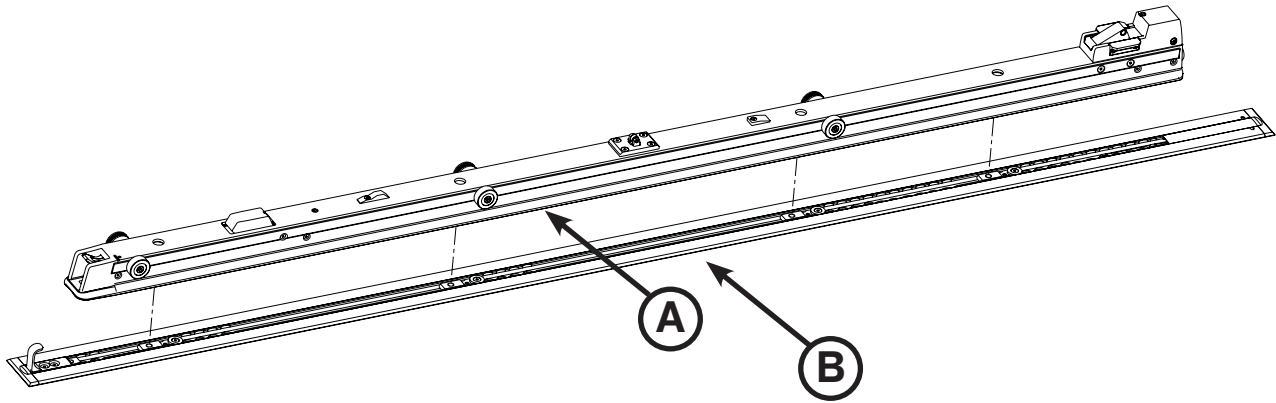

Figure 15: Anchor Assembly and Floor Plate Assembly
42. Carefully place the anchor assembly (A) on top of the floor plate assembly (B) as shown in Figure 15, laying the excess wire into the floor plate channel. Align the four holes with the floor plate attachment brackets.